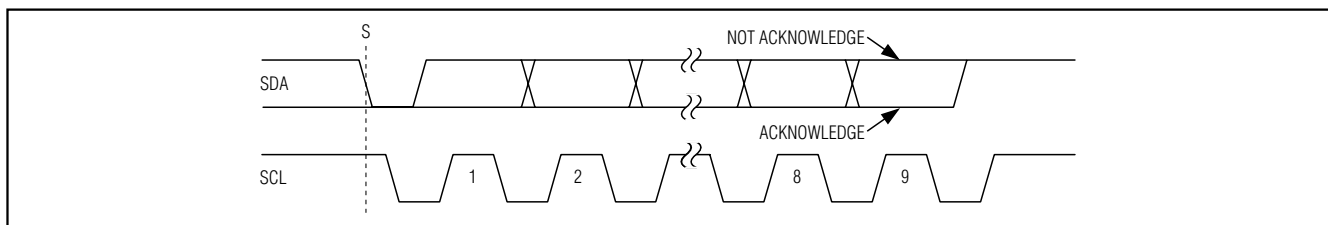

Figure 8. Acknowledge Bits
Successful data transfers are acknowledged with an acknowledge bit (A) or a not-acknowledge bit ( $\bar{A}$ ). Both the master and the MAX1069 (slave) generate acknowledge bits. To generate an acknowledge, the receiving device must pull SDA low before the rising edge of the acknowledge-related clock pulse (ninth pulse) and keep it low during the high period of the clock pulse (Figure 8). To generate a not acknowledge, the receiver allows SDA to be pulled high before the rising edge of the acknowledge-related clock pulse and leaves it high during the high period of the clock pulse.